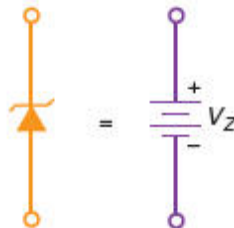

Figure-3 Ideal approximation of a Zener diode.
- Figure-3 shows the ideal approximation of a Zener diode. This means that a Zener diode operating in the breakdown region ideally acts like a battery.